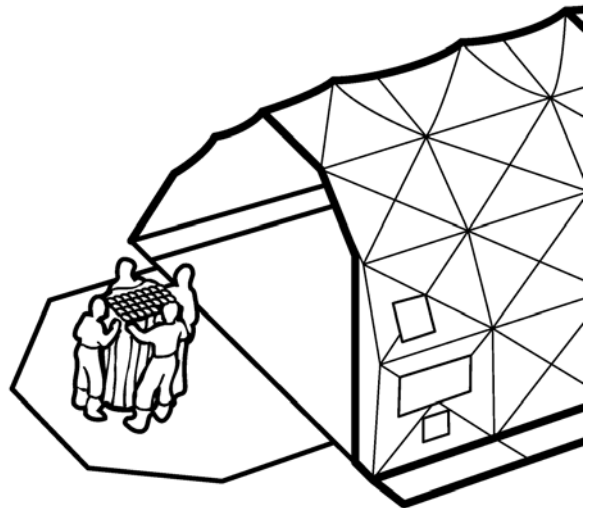

Figure 2-10 - Position the End Section
1. Position the End Section so that the open end of the Section faces the open end of the adjoining Center Section as shown in Figure 2-10.